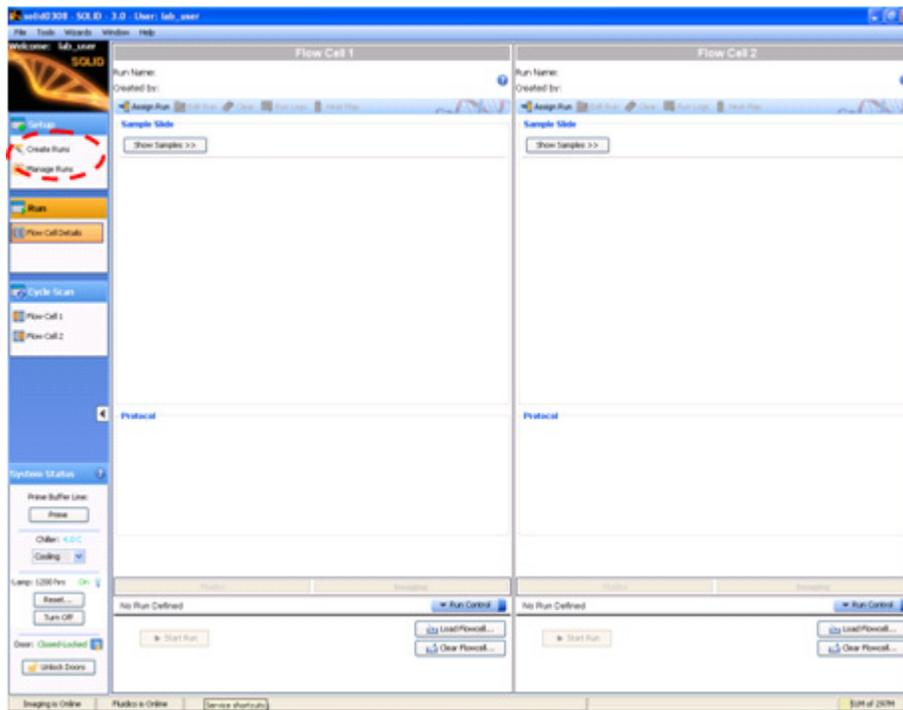

Figure 43 Use the run wizard to create a sequencing run.
1. Click **Create Runs** in the Setup task pane on the left menu pane of the ICS (see Figure 43 on page 60).